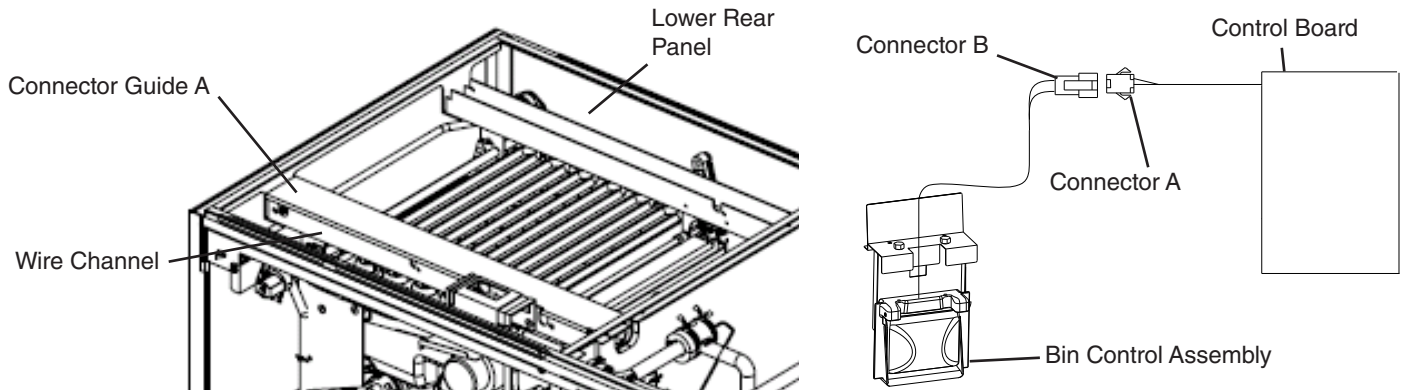

Fig. 4
- 8) Remove the top, left, and right panels. See "II.C. How to Remove Panels" in the instruction manual. Also remove the lower rear panel. See Fig. 4.
- 12) Remove connector guide A, then disconnect the bin control connectors located in the wire channel. See Fig. 4.